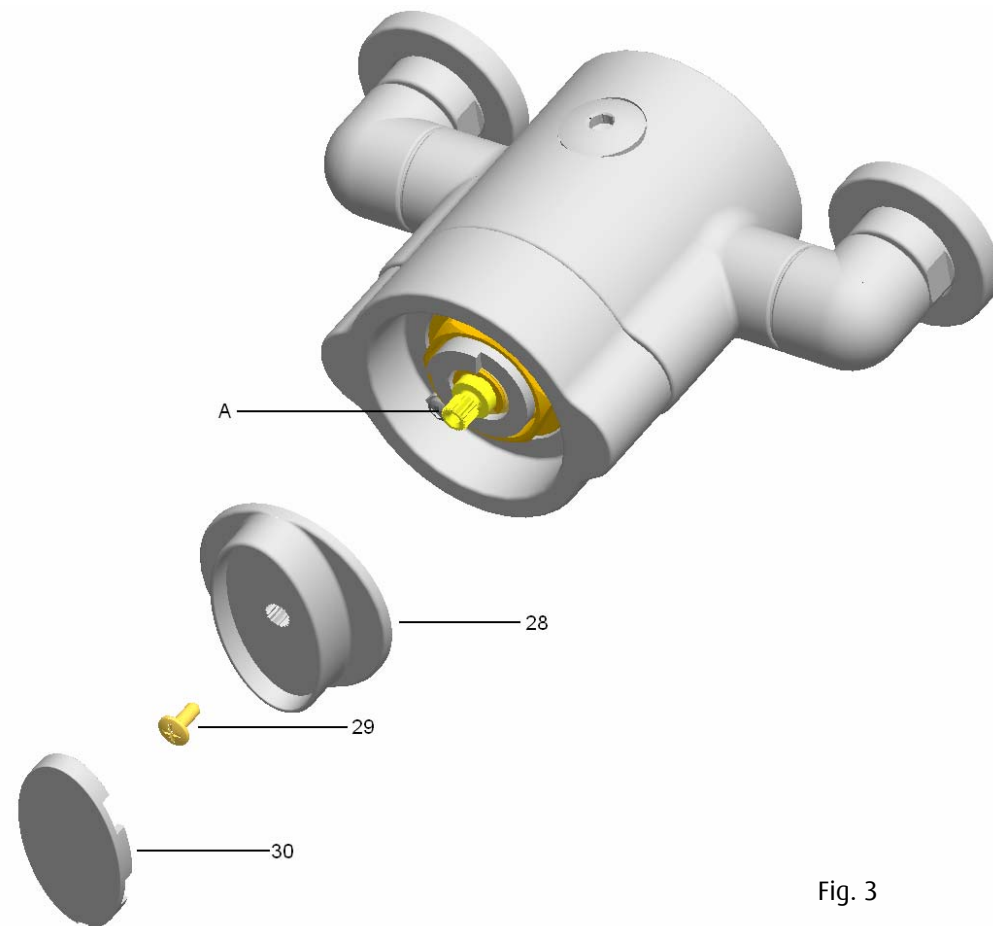

Fig. 3
8.8 Resetting the Maximum Temperature (See Fig. 3)